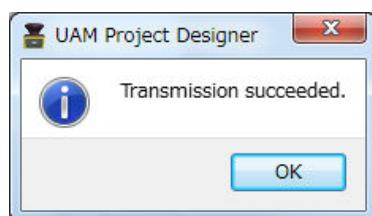

Figure 7-62 Transmission complete window
- h) Dialog box as shown in Figure 7-62 will appear. Click OK to complete the save.